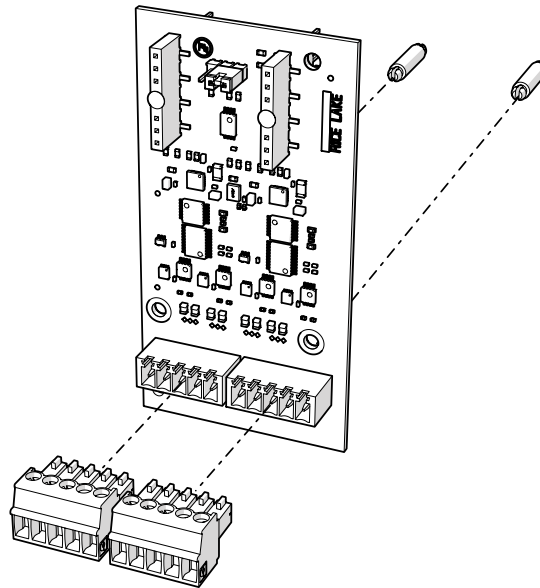

Figure 1. Dual Serial Option Card Kit
Figure 1 and Table 1 show the parts provided in the dual serial option card kit:
3. Connect the two standoffs to the option card board as shown in Figure 1 on page 1.